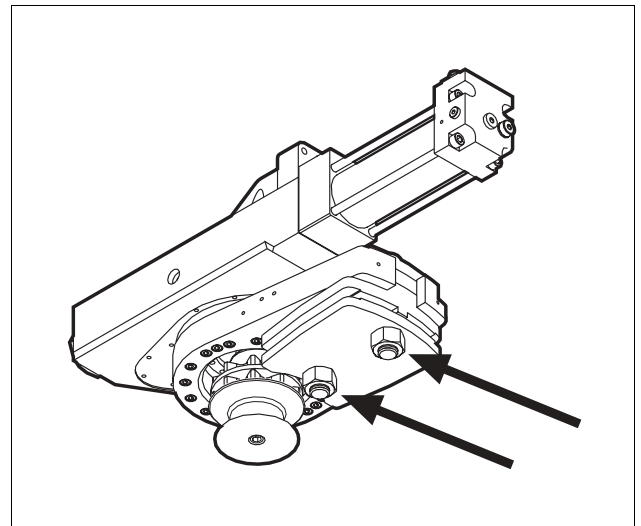

Fig. 21 Replacing Saw Bar
3. Loosen the Hex Nuts, use a 36 mm wrench, until you are able to pull out the saw bar. *See Fig. 21.*